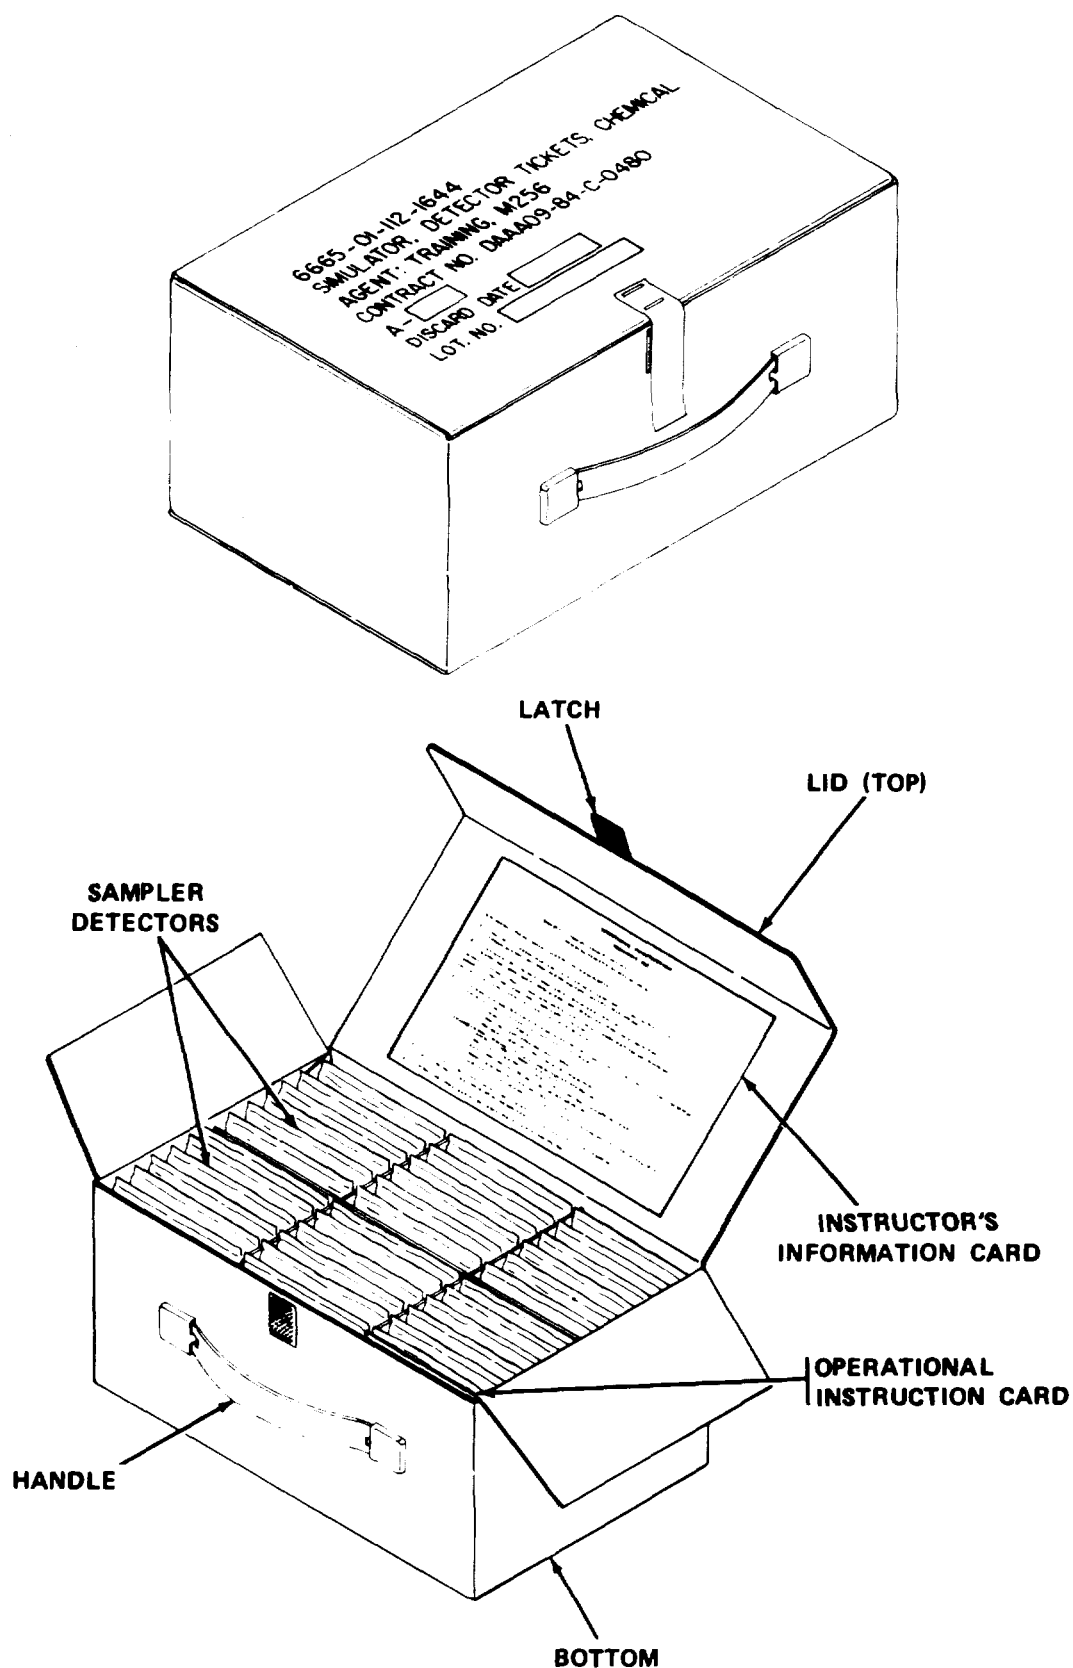

Figure 1-1. M256 Training Chemical Agent Detector Tickets Simulator.
**1-1. SCOPE.** This manual is for use in operating the M256 Training Chemical Agent Detector Simulator (fig. 1-1). This equipment will be referred to as M256 Training Simulator and can be used to simulate M256 or M256A1 Detector Kit responses.
**1-3. REPORTING OF ERRORS.** Reports of errors, omissions, and recommendations for improving this publication by the individual user is encouraged. Reports should be submitted on DA Form 2028, "Recommended Changes to DA Publications," and forwarded direct to Commander, US Army Armament, Munitions, and Chemical Command, ATTN: AMSMC-MAR-T (A), Aberdeen Proving Ground, MD 21010-5423. A reply will be furnished to you.
a. *Purpose.* The purpose of the M256 Training Simulator (fig. 1-1) is to simulate a chemical agent response in the absence of agent or simulant in a training environment.
(1) Carrying box. The carrying box is blue in color to indicate a training aid.